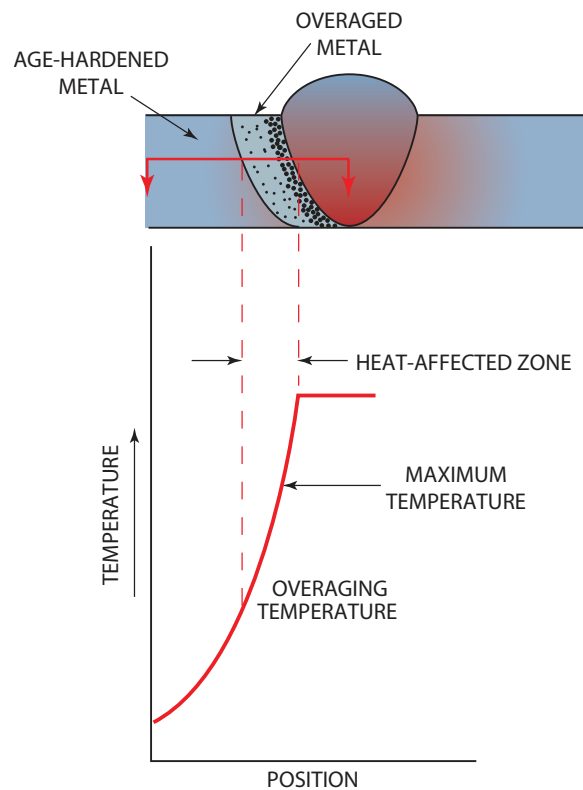

FIGURE 27-25 Heat-affected zone in age-hardened metal. © Cengage Learning 2012
- *Type of metal or alloy:* Some metals are easily affected even by small temperature changes, while others are more resistant. In work-hardened metals, the heat-affected zone is defined by the recrystallization temperature, Figure 27-24. In age-hardened alloys, this temperature is the lowest temperature at which evidence of overaging is seen, Figure 27-25. In quenched and tempered steels, it is the temperature at which overtempering is seen.